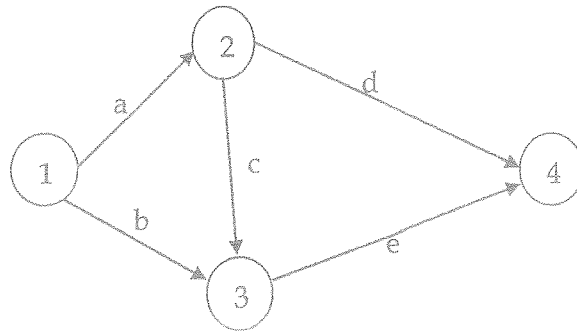

Figure Q2-1 Network Diagram of a Project
- c) Figure Q2-1 shows the activity network diagram for a small project. Determine the normal project duration and the critical path of this network diagram using Activity on Arrow method by using information in Table Q2-1. [1.5 Marks]
- d) Table Q2-1 shows the planned time (days) and cost (\$) for different activities in the network given in Figure Q2-1, with possible crashing information. Find the